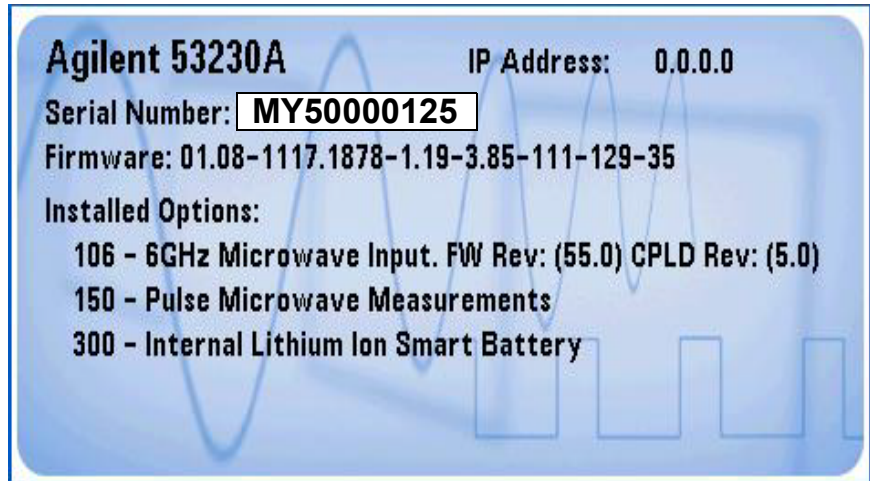

Figure 6-1. Information Screen
The serial number *prefix* for your counter is the first 5 character positions in the serial number shown on the counter (for example: **MY50000125**). The counter serial number *suffix* (for example: **MY50000125**) is the production number of the counter. The *whole number* (**MY50000125**) is the actual serial number of the counter. See Figure 6-1.
This guide applies directly to Counters with the serial prefixes listed in Table 6-1. (See also Figure 6-1.)
- An information screen (Figure 6-1) is displayed that contains the following items: